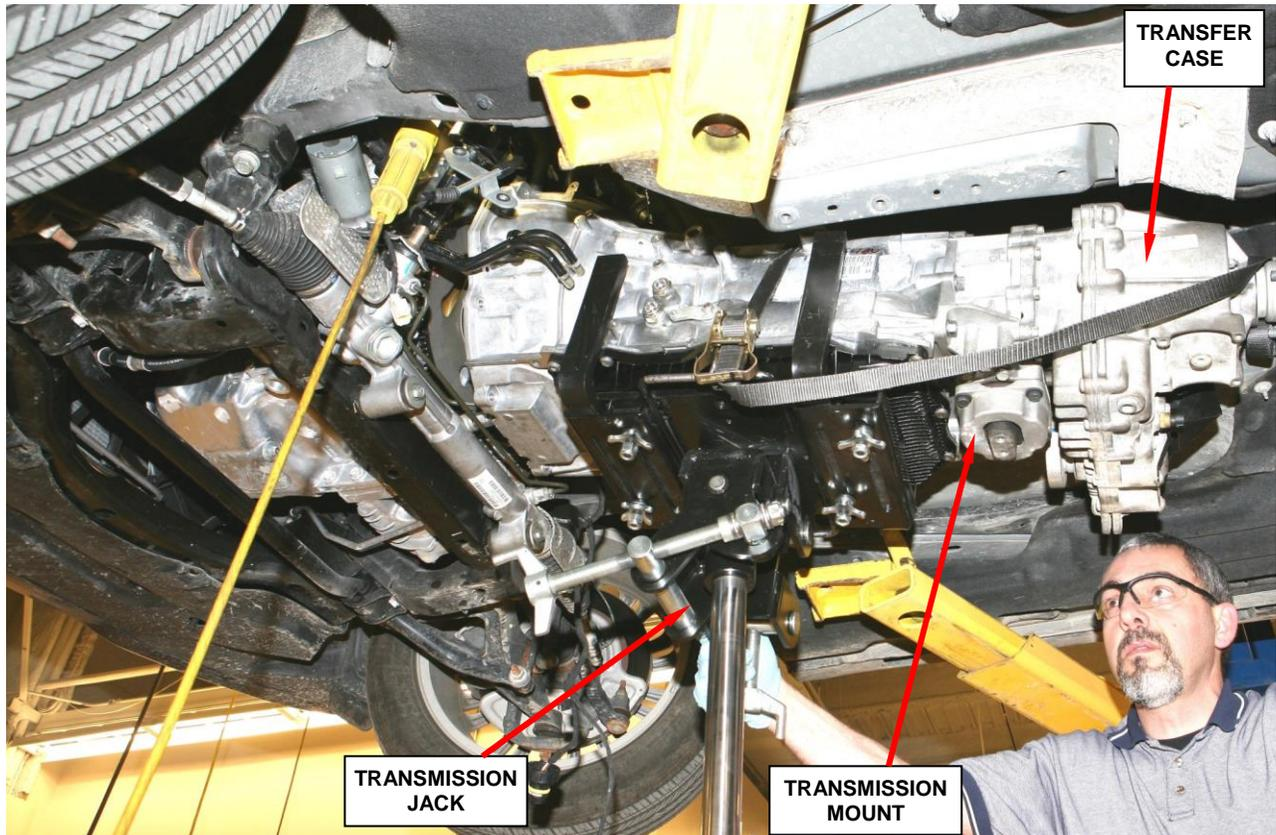

Figure 14 – Transmission Assembly
18. Carefully lower the transmission and transfer case, as an assembly, from the vehicle (Figure 14).
19. Remove and save the transmission mount (Figure 14).